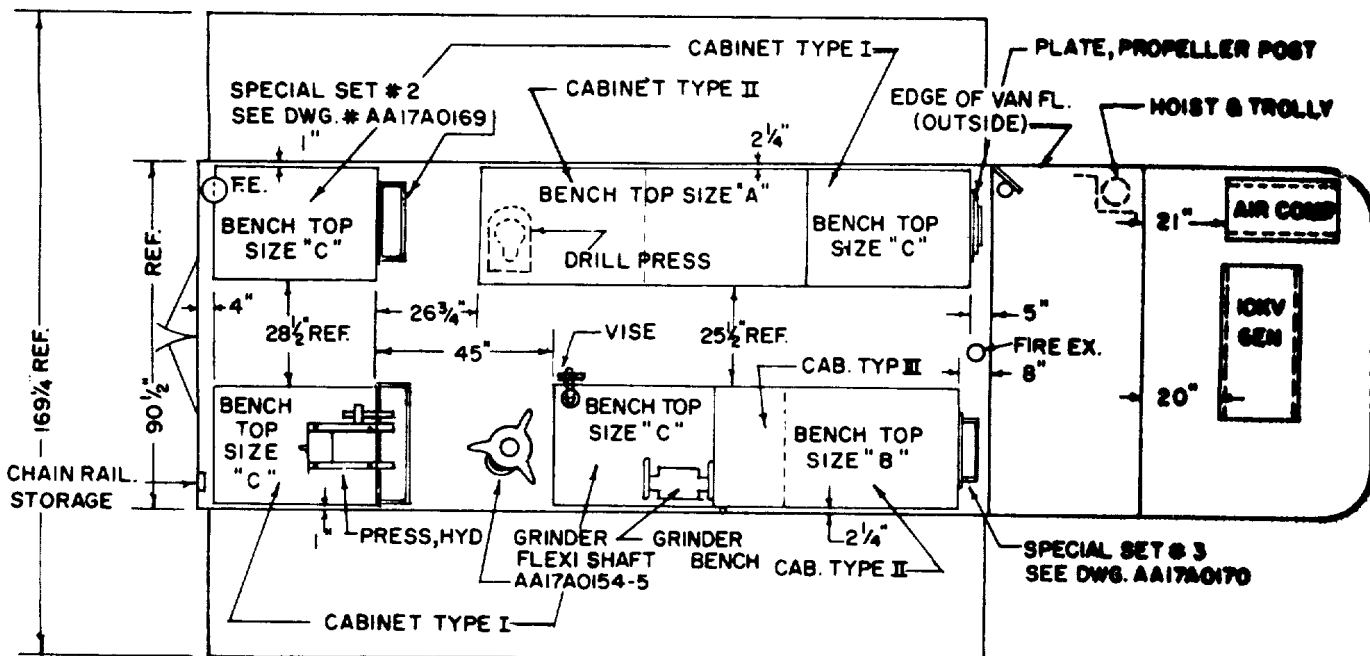

Figure 21. Floor plan layout, top view.
*b. Servicing.* Keep electrical power cords clean and free of grease and oil. Do not allow rubber covered power cords to come in contact with grease, oil, fuels, cleaning solvents or paint thinners. Store detachable electric power cords in space provided when not in use. (fig. 21). Wipe foreign materials from electrical
Maintenance, Semitrailer Mounted, C-9, Propeller and Rotor Shop, consists of storage cabinets and bench tops. Layout of the utility system of the shop is shown in figure 21.